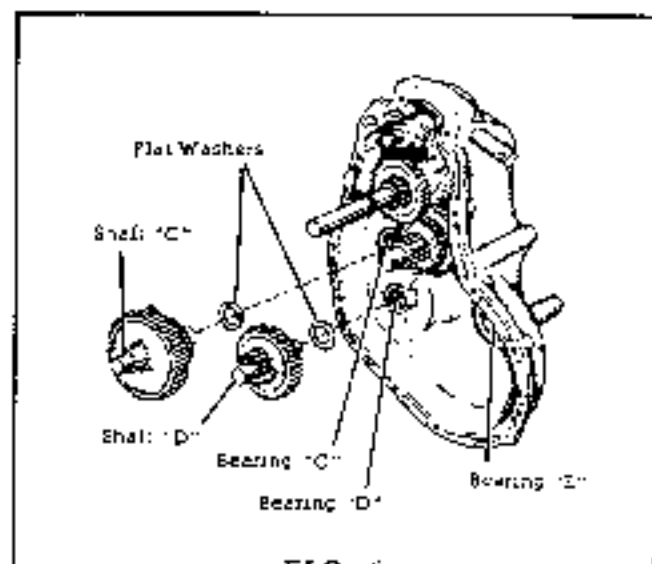

FIG. 5
7. Place a greased flat washer over face of bearing "D" and place shaft "D" and gears in place in the bearing. See Fig. 5.
8. Place a greased flat washer over face of bearing "C" and place shaft "C" and gears in place in the bearing. See Fig. 5.